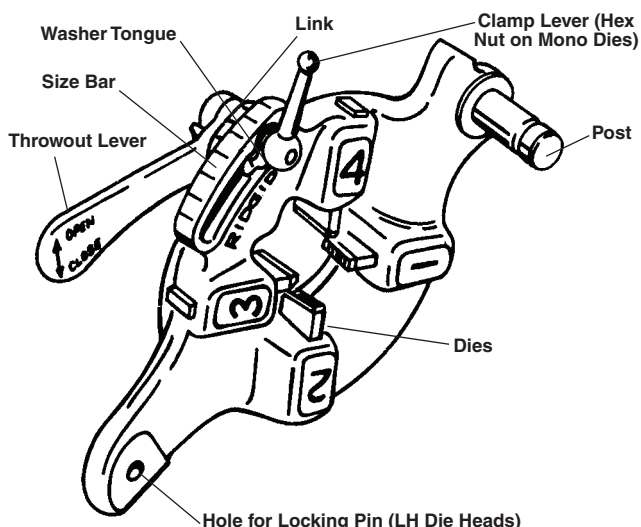

Figure 5 –Quick-Opening Die Head
Quick-Opening Die Heads include Model 811A and 531/532 Bolt. Quick opening die heads are manually opened and closed for user specified thread length. See *Figure 5*.
4. Lift tongue of washer out of slot in size bar. Move washer to end of slot (*Figure 5*).